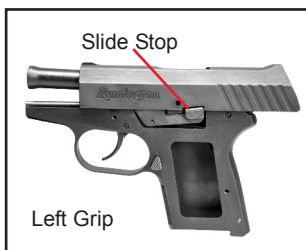

Figure 43
7. Remove the left grip by moving it down slightly to clear the Slide Stop then lift it from the frame. Do not disturb the components under the grip. See Figure 43.